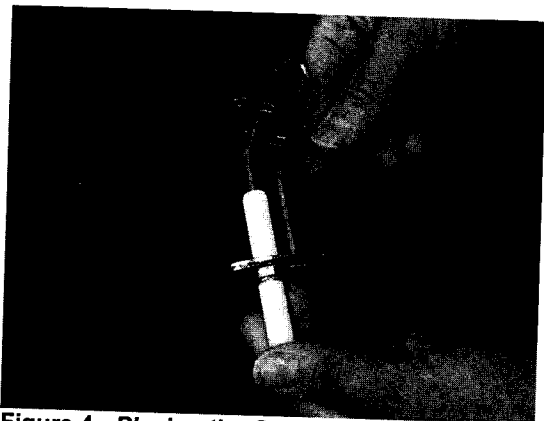

Figure 4 - Placing the Gasket on the Igniter
1. Place the gasket on the igniter as shown in Figure 4.